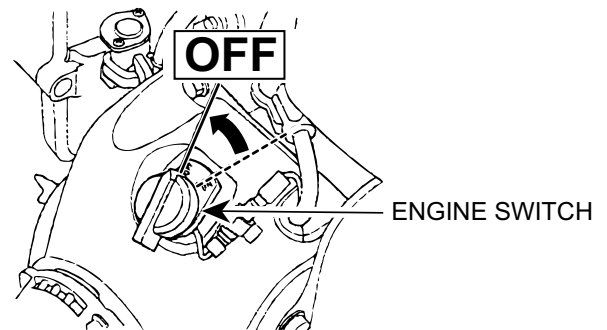

Figure 17. ON/OFF Switch (OFF Position)
13. After the engine cools, turn the engine ON/OFF switch to the "OFF" position (Figure 17).